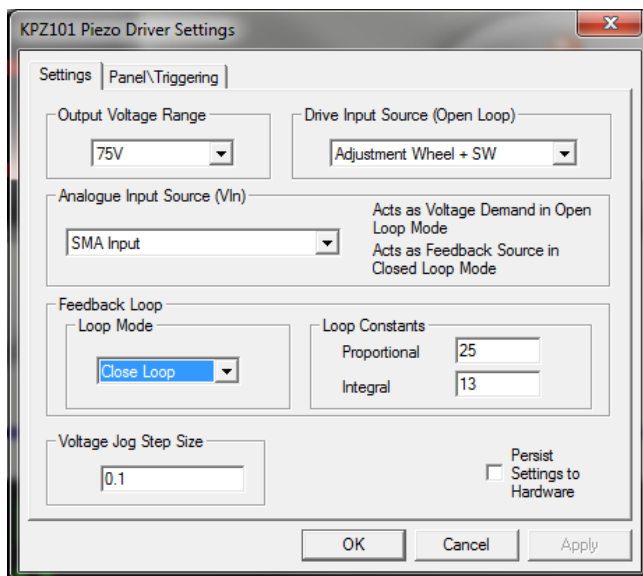

Fig. 5.7 Piezo Driver Settings
- 11) Make the following parameter settings, as shown in Fig. 5.7